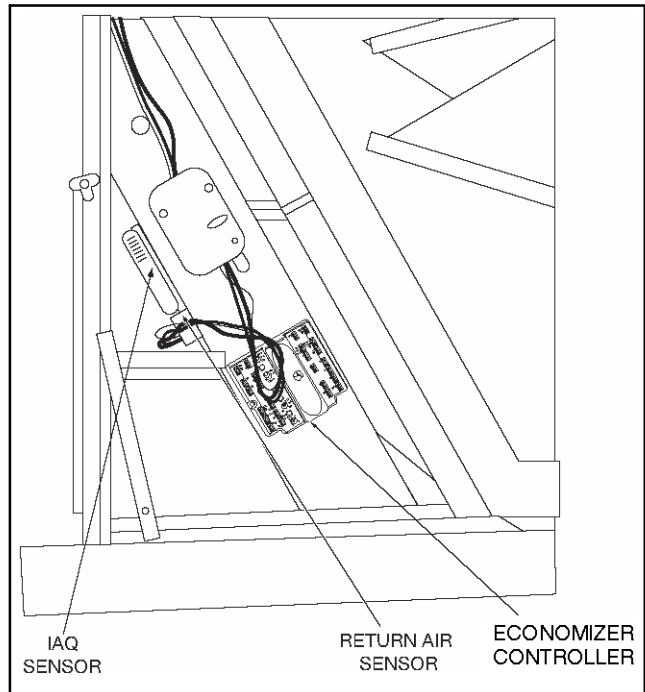

Fig. 9 – Return Air Enthalpy Sensor Mounting
4. Using the screws provided in the DNENTDIF004A00 kit, mount the differential enthalpy sensor to the economizer frame. (See Fig. 9.)